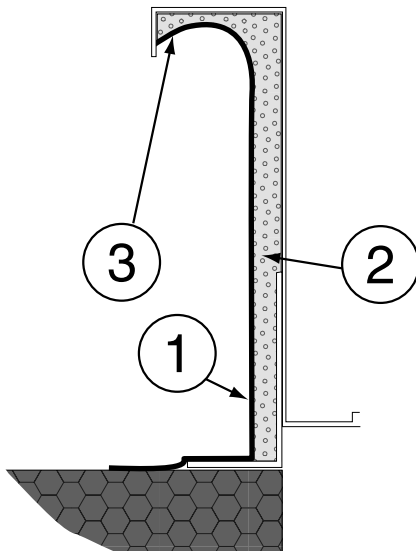

Fig. 18
Outside of frame must be insulated with rigid type insulation; We recommend a minimum of 20 mm thick insulation (2 figure 18).
Check that the insulation is continuous, counter flash and seal around the frame as shown in (1-figure 18).
**CAUTION :** To be effective, the upstream must end below the drop edge (3 - figure 18).